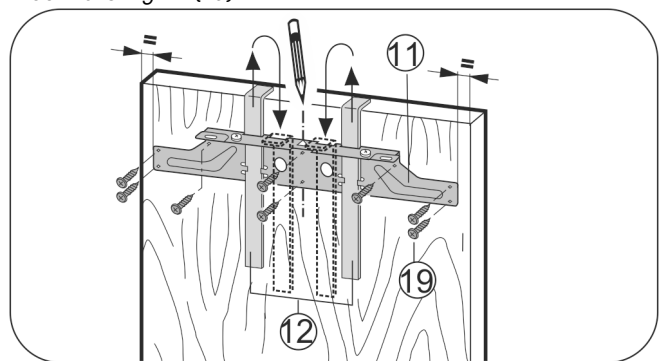

Fig. 18
- ▶ Attach fastening crosspiece Fig. 18 (11) to the inside of the unit door using the assembly aids Fig. 18 (12).
- ▶ Align the crosspiece Fig. 18 (11) in the middle of the door.
- ▶ Secure the fastening crosspiece Fig. 18 (11) with at least 6 screws Fig. 18 (19).
- ▶ Secure the fastening crosspiece Fig. 18 (11) with 4 screws Fig. 18 (19) at the edge.
- ▶ Raise the assembly aids Fig. 18 (12) for removal, turn them and insert them into the adjacent openings.